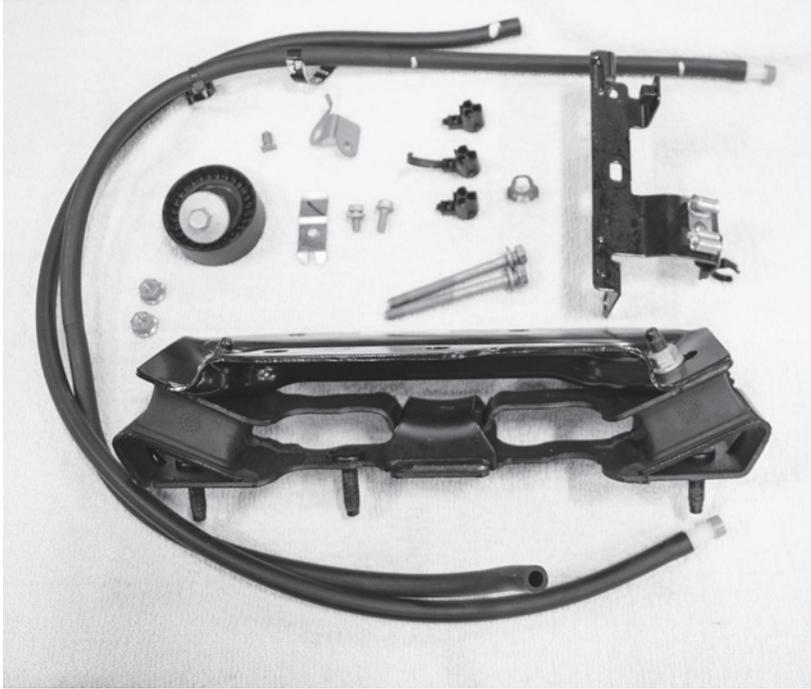

Figure 10
6. Remove the vent tubes from the transfer case, transmission, and SAVE for later use (fig 10).
7. Remove the idler pulley from the 3.6L and the short bolt from the idler pulley, and SAVE for later use (fig 10).